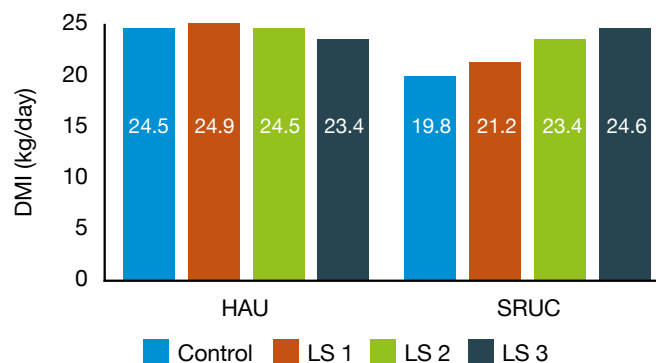

Figure 51. Dry matter intake at HAU and SRUC
- Including LS at 0.50 of forage DM or more increased intake (DMI) by 3.5kg/ day at SRUC (Figure 51)